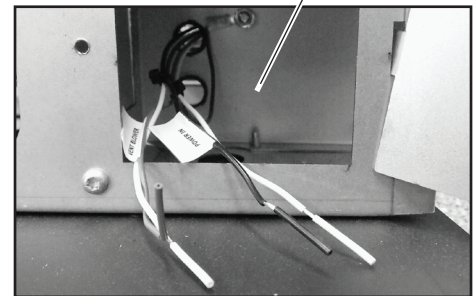
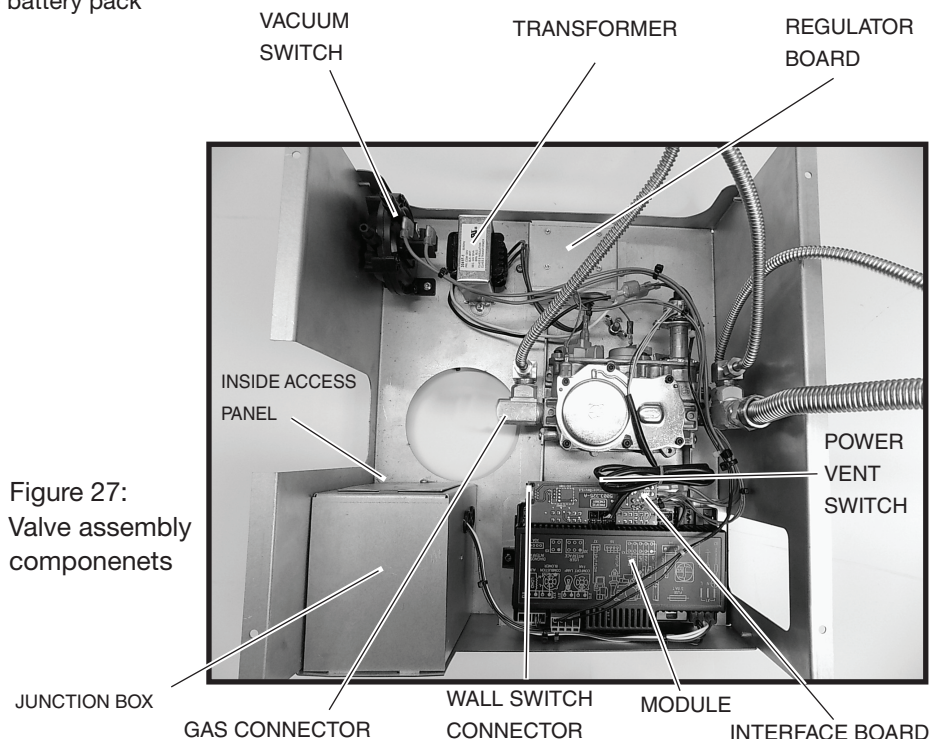
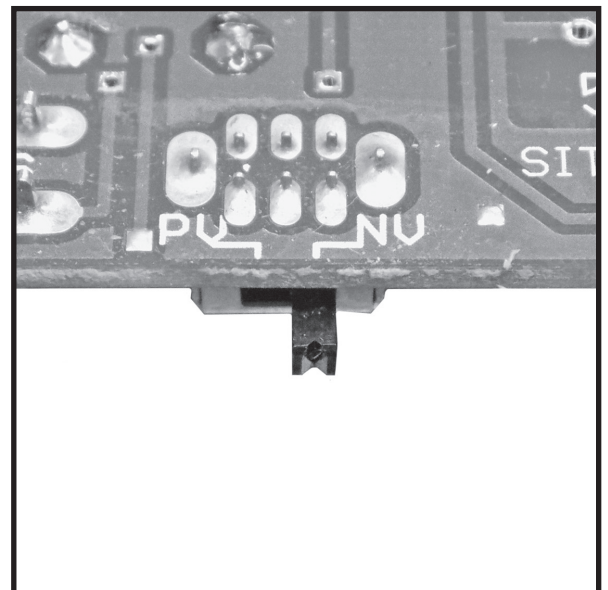

Figure 26: Junction box wiring
Figure 27:
Figure 31: Vent mode selection switch.
4. Connect 110 V. AC electrical supply to the wires installed inside the junction box (Figure 26). The fireplace is rated at 110 volts, 60Hz, 0.25A. The optional power vent kit is rated at 115 volts, 60Hz, 1.8A.
The electrical wires can be accessed from both inside and outside the junction box by removing one of the two small access panels (Figure 26 and Figure 27).
7. Attach one end of the wall switch control cable to the wall control (Figure 29), and the other end to the interface board (Figure 27).
The NV / PV (Natural Vent / Power Vent) switch (Figure 31) on the interface board (Figure 27) is set according to which type of evacuating vent system is present. If the fireplace is vented without the assistance of a power vent, the switch must be set to “NV”. If using a power vent, “PV” must be selected.
1. Connect the gas supply to the valve (Figure 27).